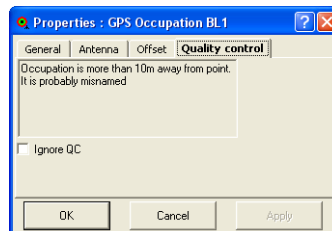

Figure 5-85. Quality Control Properties
5. View *Quality Control* tab contains informational text on selected occupations (marked in red on the views) that did not pass some of the quality control checks (Figure 5-85). To turn off the feature that marks a point red when it fails some quality control tests, select the *Ignore QC* check box.